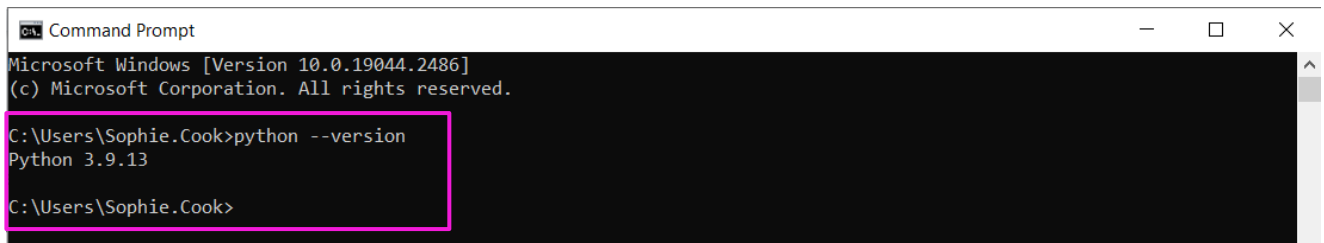

Figure 115. Command Prompt returning the version of Python installed.
3. To check if installation was successful or if Python is already installed and TagLab compatible, open the Command Prompt, and type `python --version` and click Enter. The installed version of Python will appear in the Command Prompt (Figure 115).